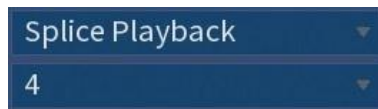

Figure 5-74
2. In the **Search Type** list, select **Splice Playback**; In the Split Mode list, select **4, 9, or 16**. See Figure 5-74.